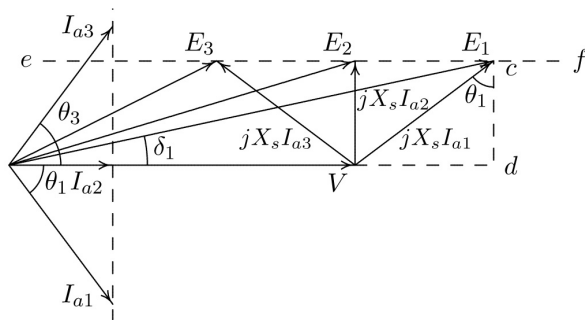

Figure 3: Variation of field current at constant power
Assuming the power is constant, then from (1),  $P_{1\phi} = |V||I_a| \cos \theta$ , we have  $|I_a| \cos \theta = \text{const.}$  This locus is shown as the vertical dashed line in Figure 3.